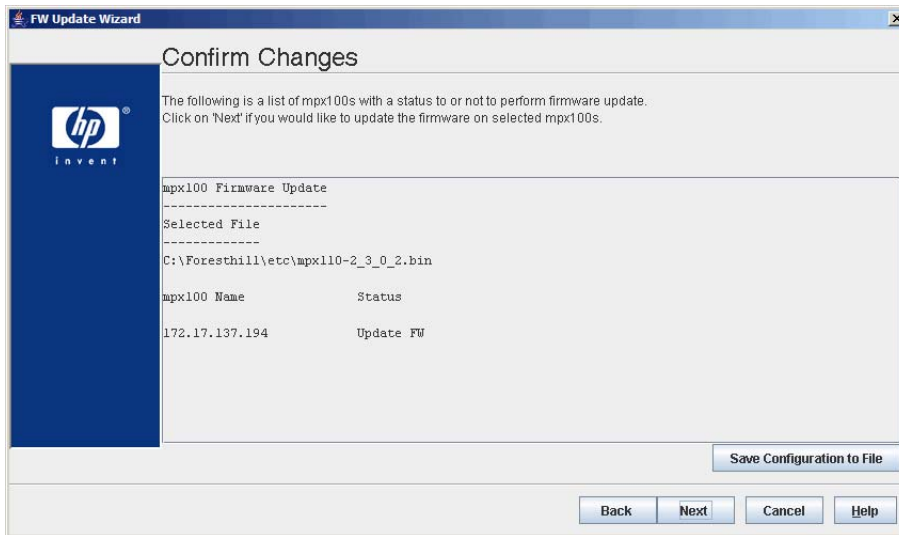

Figure 33 Confirm changes dialog box
3. Click **Save Configuration to File**, see Figure 33.